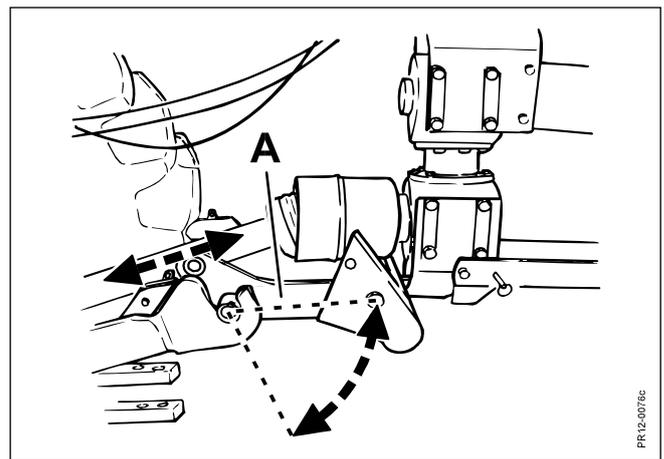

Fig. 2-5
- Fig. 2-5
- has more than 200 mm overlapping in any position (referring to situations where the safety drive (shock absorbers of the TOP SAFE system) will be released e.g. by collision with partly buried stones, see Fig. 2-5).